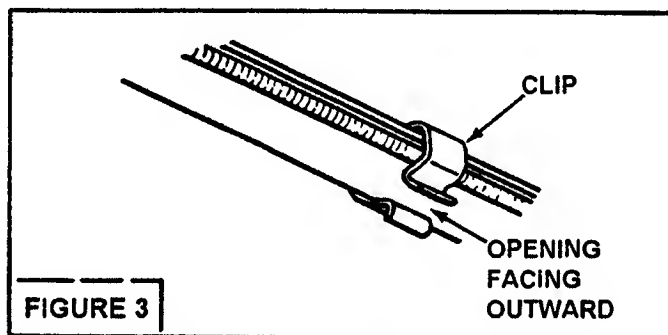

FIGURE 3
STEP 3: On all models, install cable and harness clips with openings facing outward as shown in Figure 3. Capture cables, rods or wiring harness in loop of clip, then install upper clips about 2" below the bottom edge of the upper handle and the lower clips about 2" above the tip edges of the lower handle mounts.